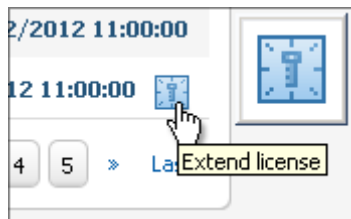

Figure 87: "Extend a license" button.
- or expand license information in the list of licenses on Reports Portal <http://portal.myaudience.com/licenses.php> and press the button at the right for the corresponding license (Figure 87)